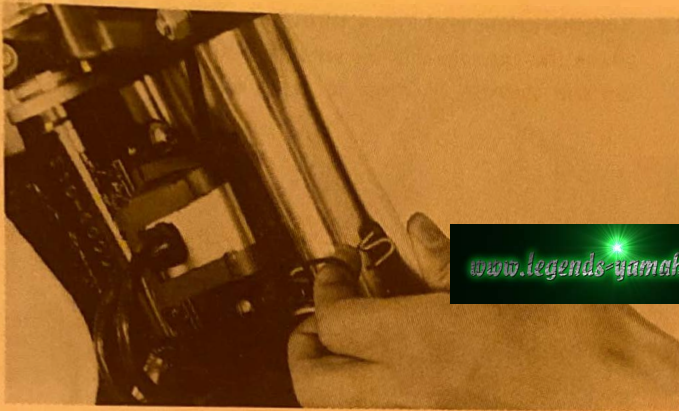

Fig. 27
16. Install the front number plate on the front forks, using the O-rings. (Fig. 27)